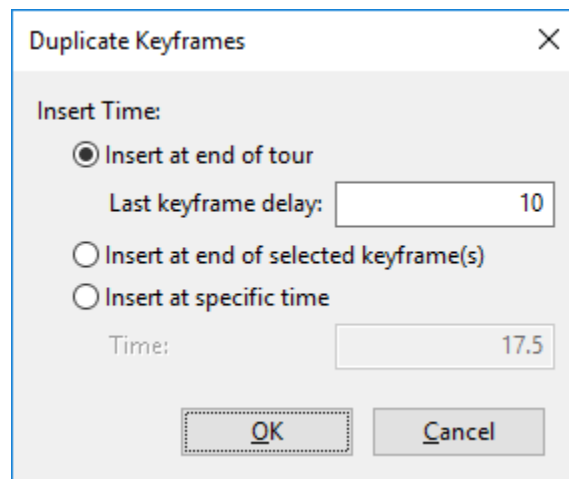

Figure 44. Duplicate Keyframes dialog
2. Right-click the keyframes and select **Duplicate**. This will open the **Duplicate Keyframes** dialog as shown in Figure 44.